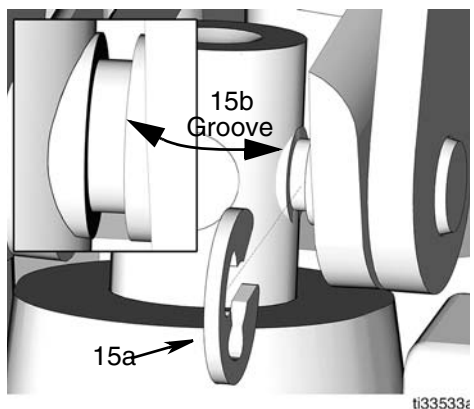

FIG. 37
3. Install clip (15a) as shown in FIG. 37.